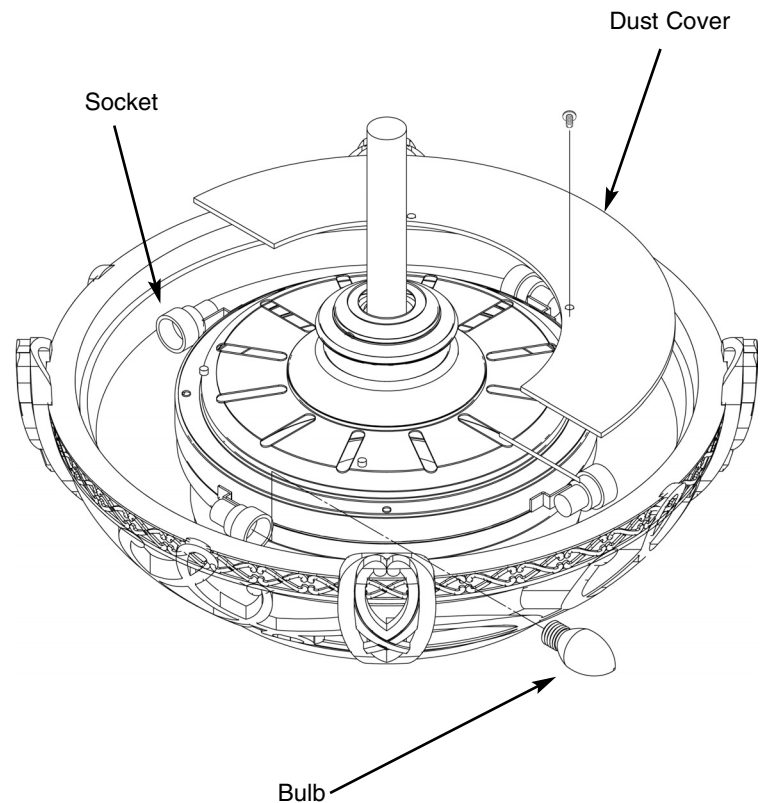

Fig. 5
Screw bulbs (4) -included with your fan- into the sockets located in the top of the fan motor housing (*see figure 5*).